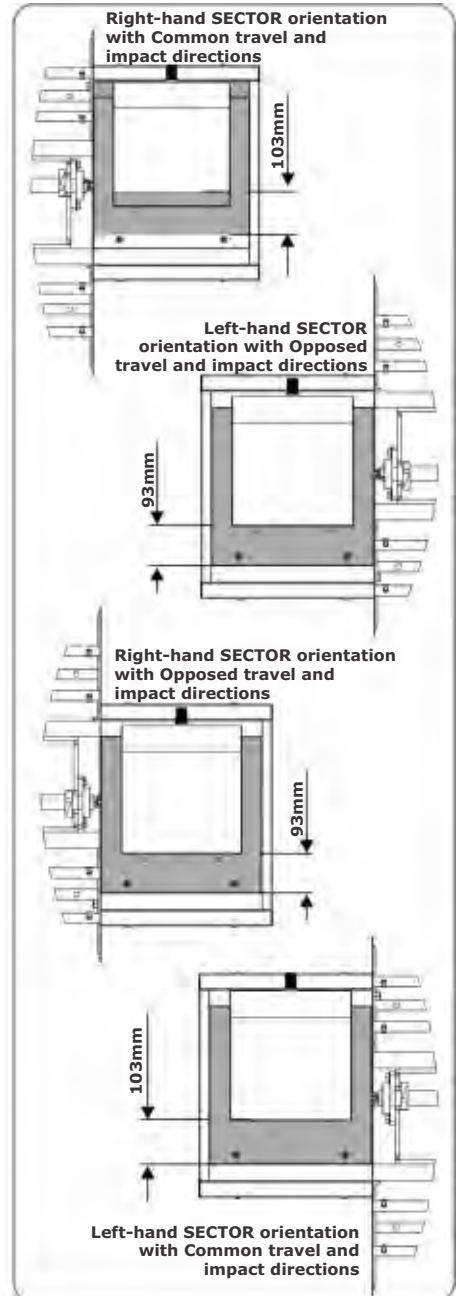

FIGURE 35. SECTOR MOUNTING POSITION
3. Be sure to mount the barrier either 103mm or 93mm from the edge of the main frame, depending on the installation configuration. See Figure 35 for clarity.